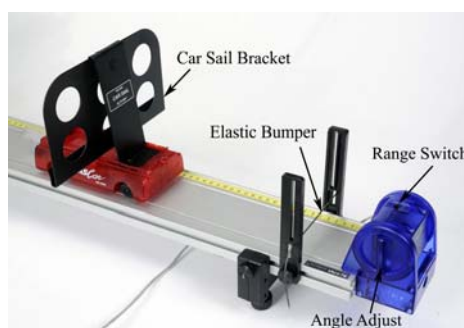

Figure 3: Motion Sensor on Track
3. It is easier to install the Elastic Bumper (Fig. 3) first. The Motion Sensor then slides onto the end of the track. This second Motion Sensor **MUST** be plugged into PASPORT port #1. Make sure the range switch is on the "cart" icon for **BOTH** sensors.
3. Identify which data set is for which cart. The data needs to be continuous with no glitches. Turn the handle (Fig. 3) on the Motion Sensor to adjust the angle to improve data. Note that the Motion Sensor cannot measure a distance of less than 15 cm.